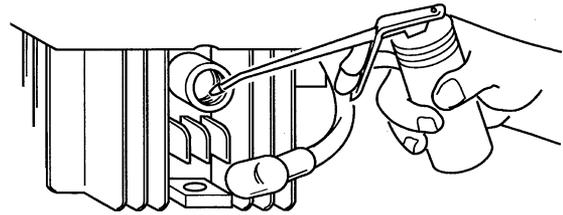

Figure 50
1. Remove spark plug. Using an oil can, squirt about one tablespoon of oil through spark plug hole (Fig. 50).